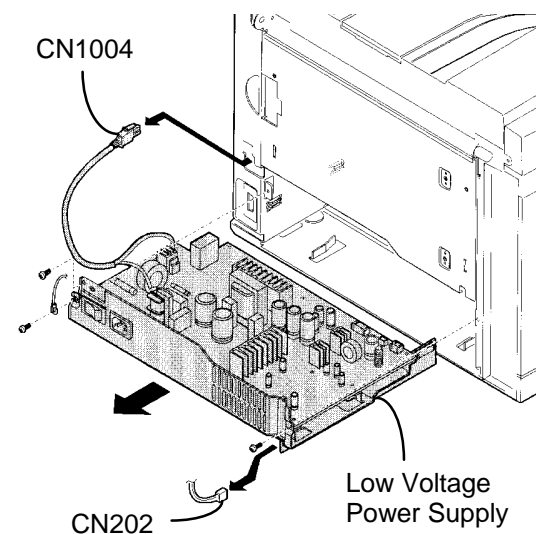

Figure 2. Removing the Low Voltage Power Supply
4. (Figure 2): Disconnect CN1004 (AC connector next to PCU PWB). Remove the wiring from the harness.